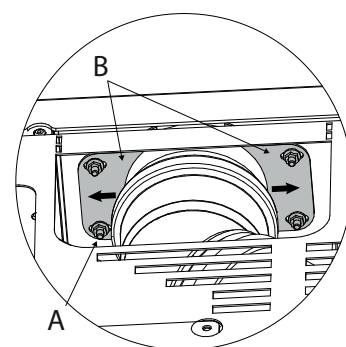

fig. 5.7a
To make adjustments, loosen the four nuts (A) and slide the two brackets (B) along the slots to ensure tightening (fig. 5.7a)